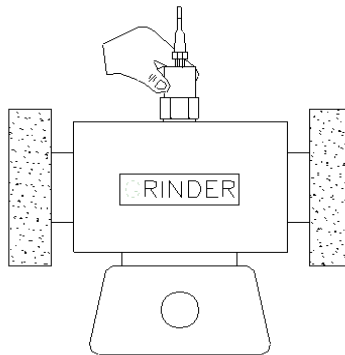

Fig. 2
- 4) If the surface material of measuring article is not the ferrous material, hold the vibration sensor by hand & touch the sensor to the surface of the measuring article, refer the Fig. 2.